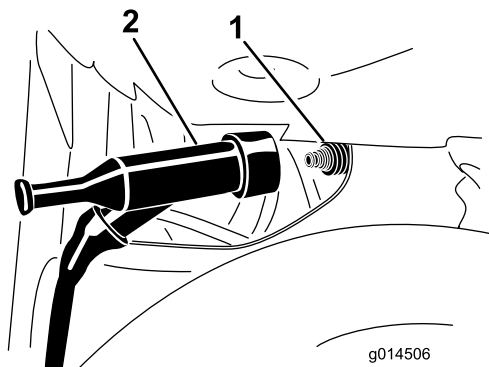

Figure 15
2. Pull the wire off the spark plug (Figure 15).